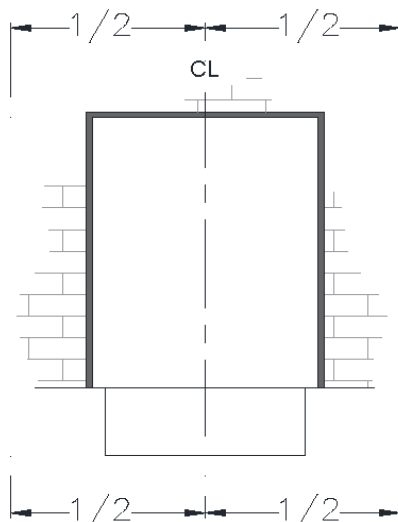

Figure 1
- 1) **Determine Centerline of Door Opening (See Figure 1).**